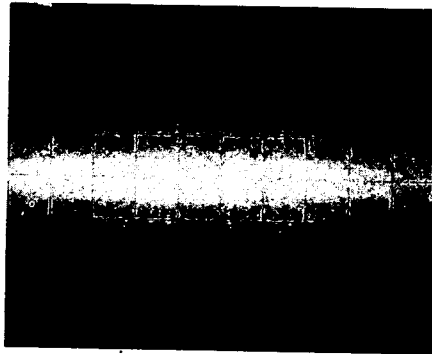

Figure 5-7. Waveform at A13TP2.
- d. Adjust "OFS-2" potentiometer A13R2 until dc level of displayed waveform is within 0mV \pm 1mV. Refer to Figure 5-7 which shows well adjusted waveform.